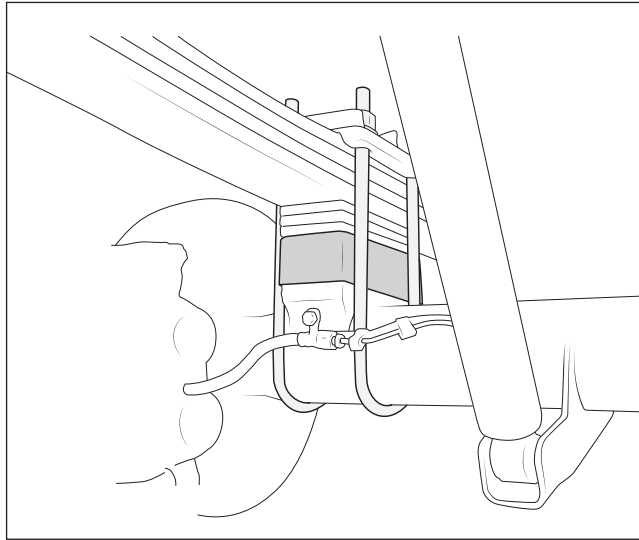

Figure 2
7. Lower the axle enough to insert the lift block (fig. 2).
8. Install the new U-bolts using factory nuts and washers and snug (fig. 2).